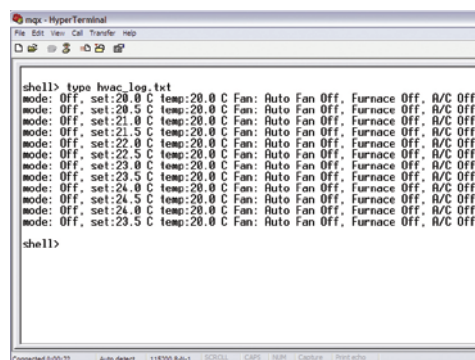

Figure 5: HVAC log file contents
13. Use the **type** command to display the contents of the log file located on the memory stick (**type hvac_log.txt**). It will look like Figure 5.